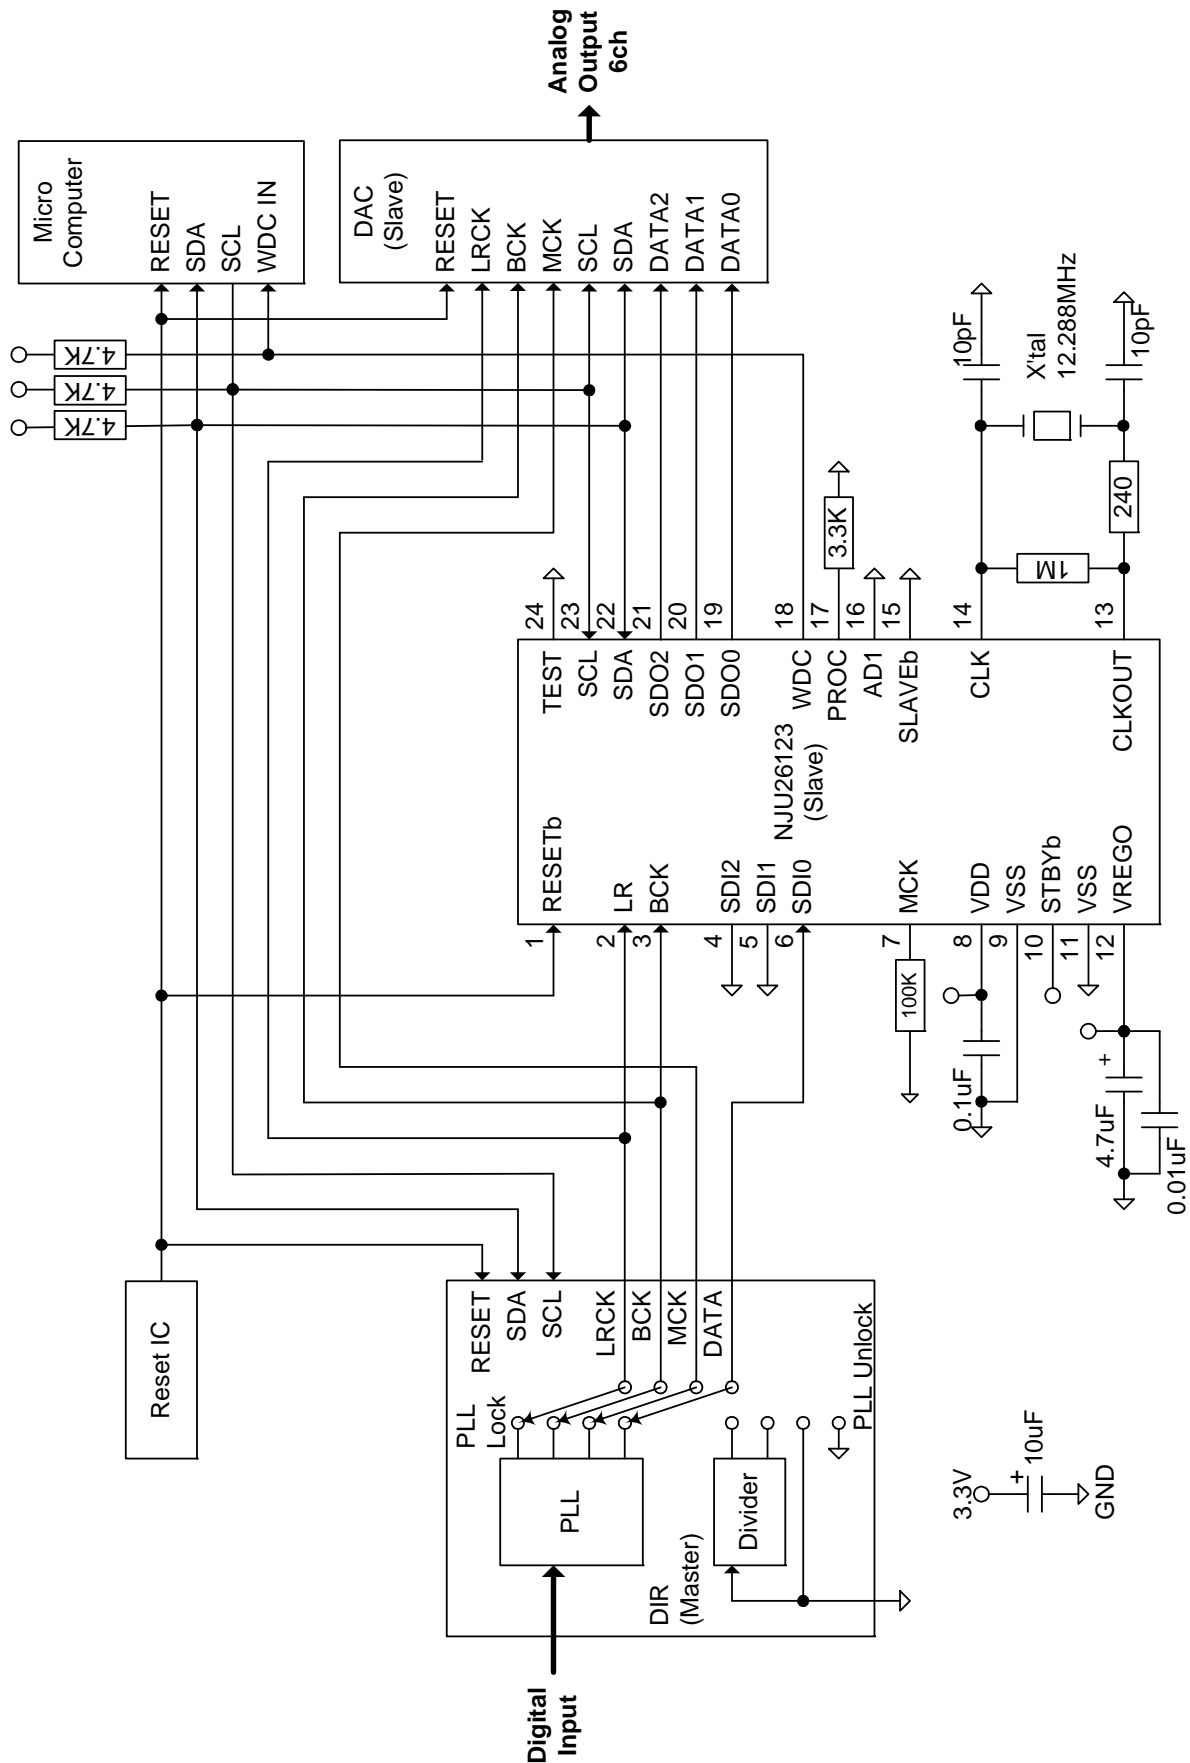
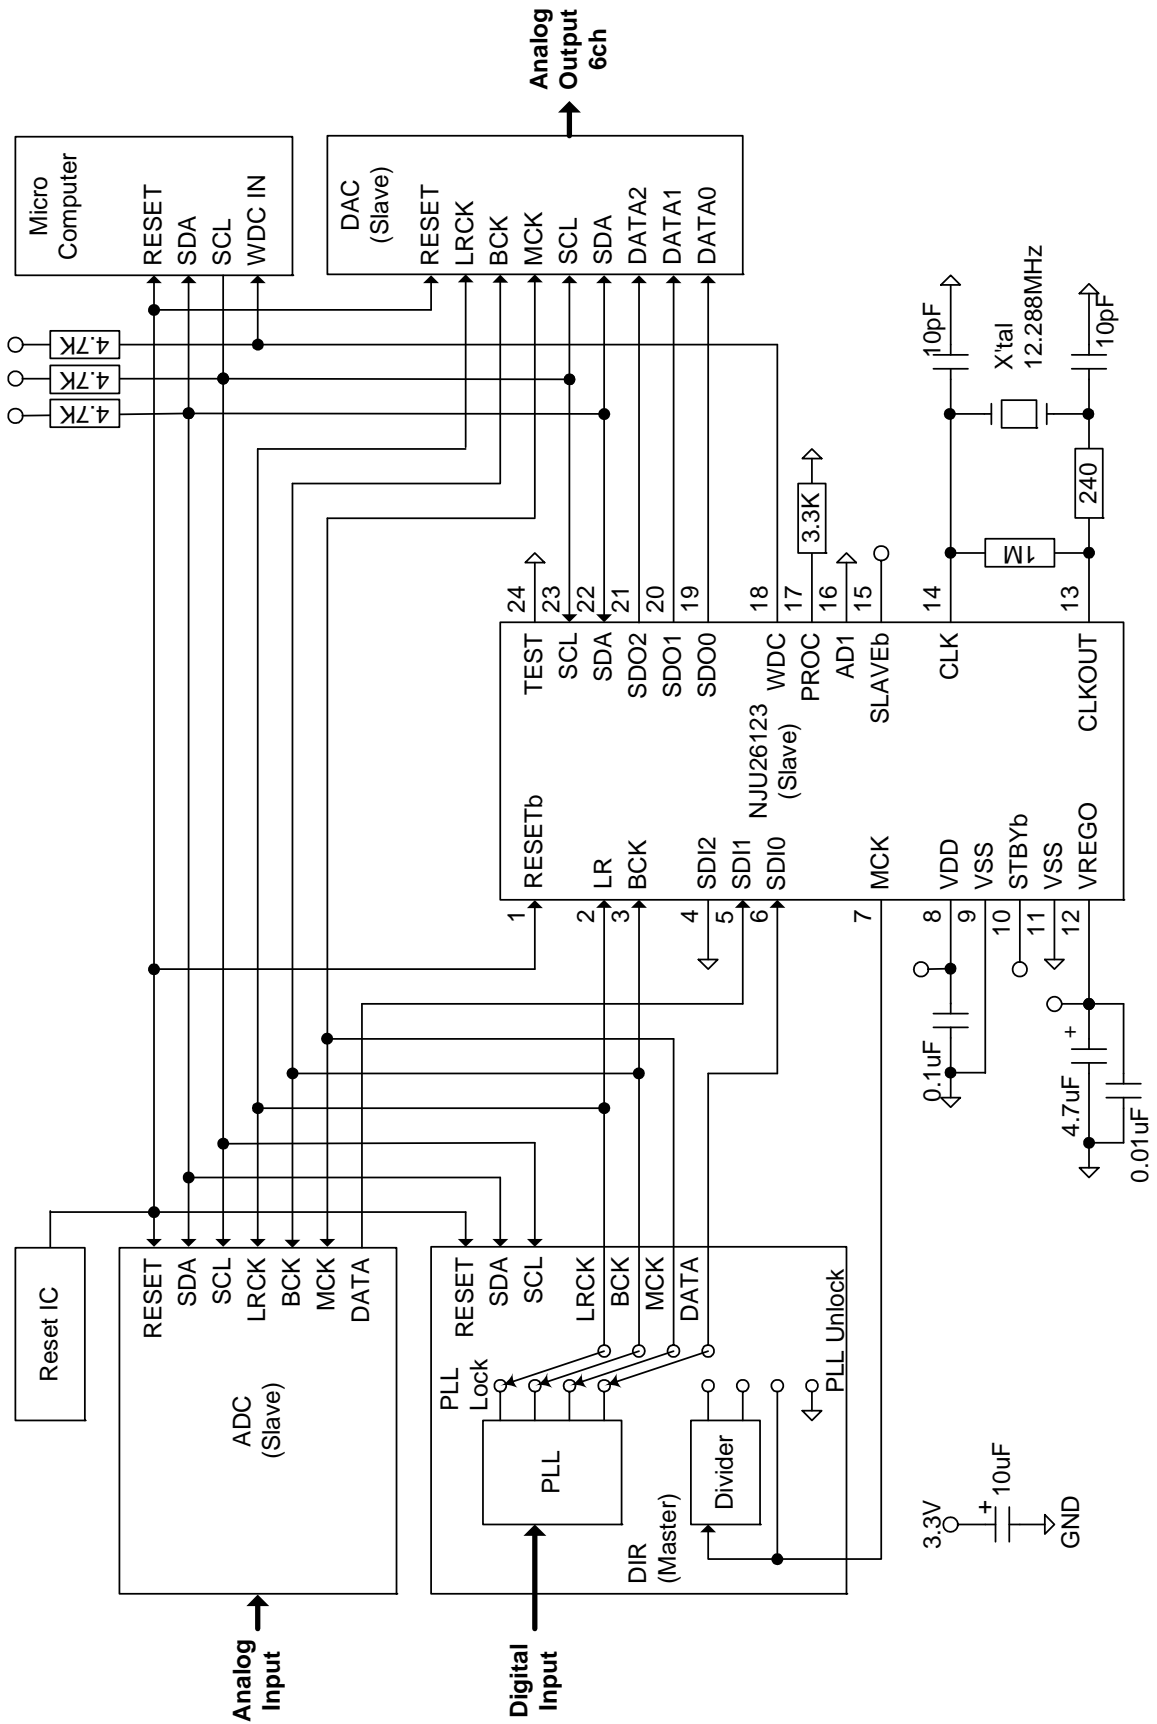

Figure 3. Application circuit 1: NJU26123 with DIR and DAC (I2C Bus)
Figure 5. Application circuit 3: NJU26123 with DIR, ADC and DAC (I2C Bus)
Note3: The ADCs and DACs operate in Slave mode in the Figure 3 to Figure 5.
The Figure 3 shows the circuit with DIR, DSP and DAC.
This application circuit 3 employs the analog audio signal input, for example ADC input, and digital audio signal input. The Figure 5 shows the circuit with DIR, ADC, DSP and DAC.
- 1) The DSP power supply is 3.3V. The input terminals accept 5V signal under the condition that the 3.3V is supplied to the DSP. The Figure 3 to Figure 6 circuits assumes the ICs that are connected to the DSP employ the 3.3V power supply. So the DSP can connect to the ICs directly.